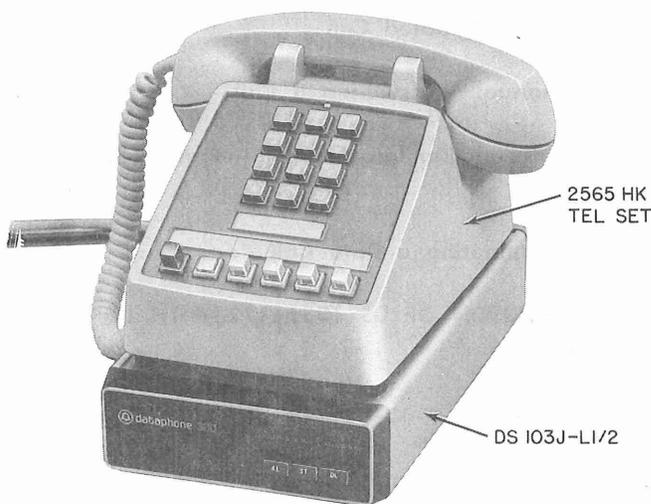

Fig. 1—Data Set 103J-L1/2 With 2565HK Telephone Set
1.01 This section describes the physical and functional characteristics of data set (DS) 103J-L1/2 (Fig. 1). General operating information is included for single set installations. The 590-010-ZZZ layer provides examples and guidelines to be followed for station arrangements that include multi-set arrangements in 40A-type data mounting(s) and cabinet.